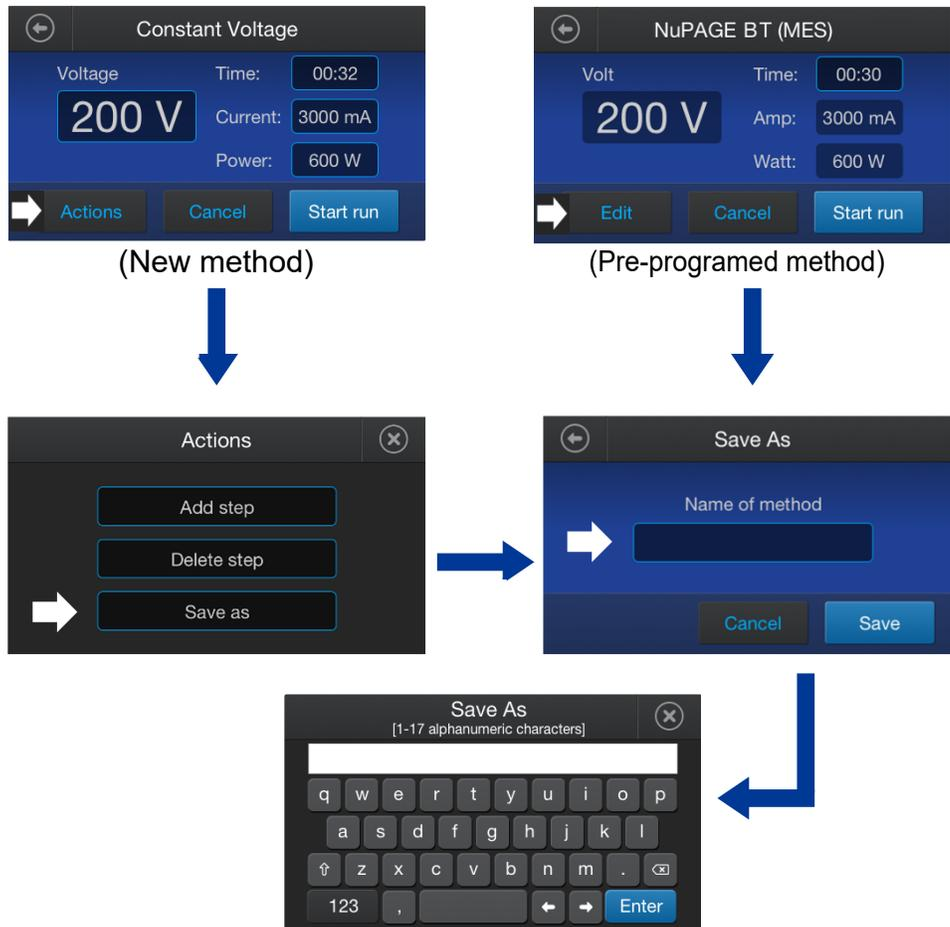

Figure 9 Screens for saving methods
5. Edit the method by touching **Edit**, then save the method using a new name (see Figure 9) or begin the run by touching **Start run**.
1. Save a new method by touching **Actions** on the **Method Run** screen (see Figure 9).
1. Touch **Actions**, then **Save As** (see Figure 9).
1. Touch **Actions**, then **Add step** (see Figure 9).
If an unsaved custom method was run, a **Save run** option will be displayed in the center dial (see Figure 13). To save the method, touch **Save run**. This will bring up the **Save As** screen (Figure 9). Touching the right arrow will display a summary of steps used for the method. If a pre-programmed or saved custom method is used, the **Save run** option will not be displayed.